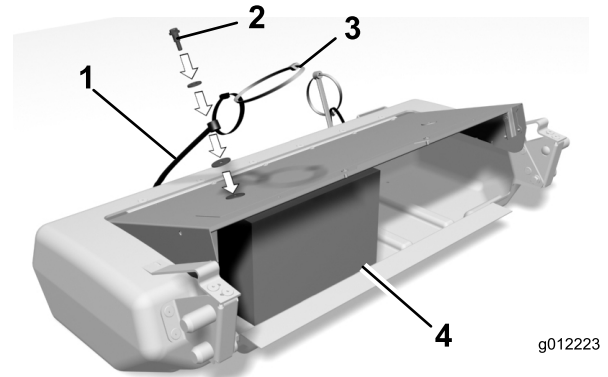

Figure 12
1. Remove the washers and nuts shipped on the strap bolts (Figure 12).
2. Using the cable ties on straps as handles, stretch each strap until it can be secured to top of basket with 2 washers and a locknut (Figure 12). Position a washer on each side of the basket top.
**Note:** To ease the installation of straps, place an 8 inch x 4 inch wood block (Figure 12) inside the basket to raise and support the top of the basket.